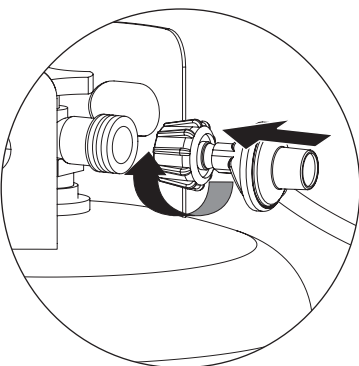

Figure 3
4. Connect gas line to tank by turning knob clockwise until it stops. (Figure 3)